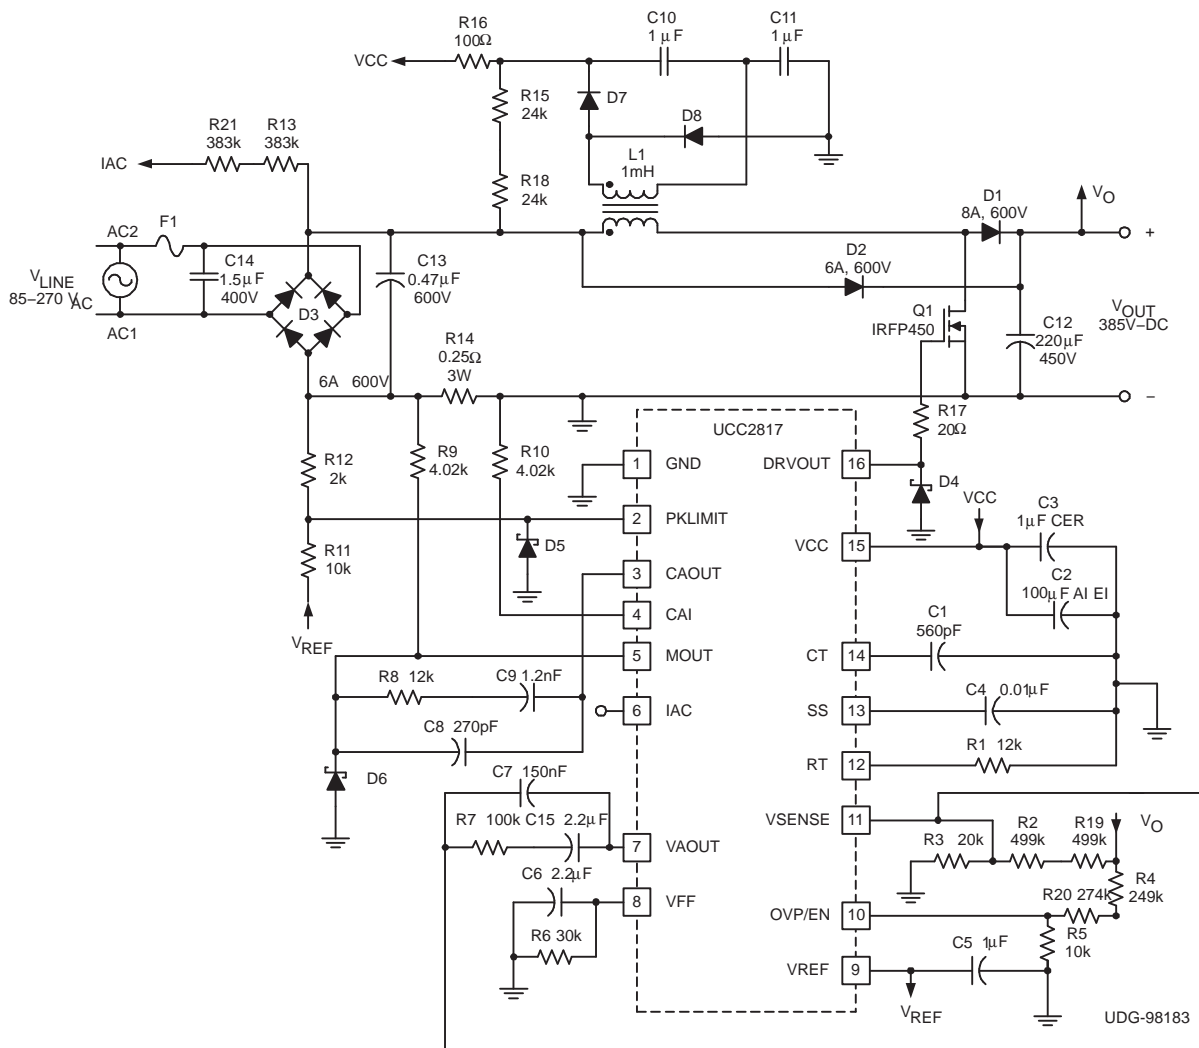

Figure 1. Typical Application Circuit
The UCC2817 is a BiCMOS average current mode boost controller for high-power-factor, high-efficiency, preregulator power supplies. Figure 1 shows the UCC2817 in a 250-W PFC preregulator circuit. Off-line switching power converters normally have an input current that is not sinusoidal. The input current waveform has a high harmonic content because current is drawn in pulses at the peaks of the input voltage waveform. An active power-factor correction circuit programs the input current to follow the line voltage, forcing the converter to look like a resistive load to the line. A resistive load has 0° phase displacement between the current and voltage waveforms. Power factor (PF) can be defined in terms of the phase angle between two sinusoidal waveforms of the same frequency:
The UCC2818 version of the device is intended to have V_{CC} connected to a 12-V supply voltage. The UCC2817 has an internal shunt regulator enabling the device to be powered from bootstrap circuitry, as shown in the typical application circuit of Figure 1. The current drawn by the UCC2817 during undervoltage lockout, or start-up current, is typically 150 µA. Once V_{CC} is above the UVLO threshold, the device is enabled and draws 4 mA typically. A resistor connected between the rectified ac line voltage and the V_{CC} pin provides current to the shunt regulator during power up. Once the circuit is operational, the bootstrap winding of the inductor provides the V_{CC} voltage. Sizing of the start-up resistor is determined by the start-up time requirement of the system design.